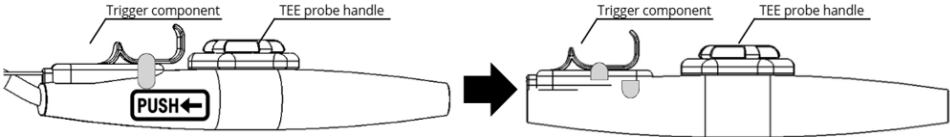

Fig. 4
4. Break the sticker by pushing the trigger forward (See Fig. 4).